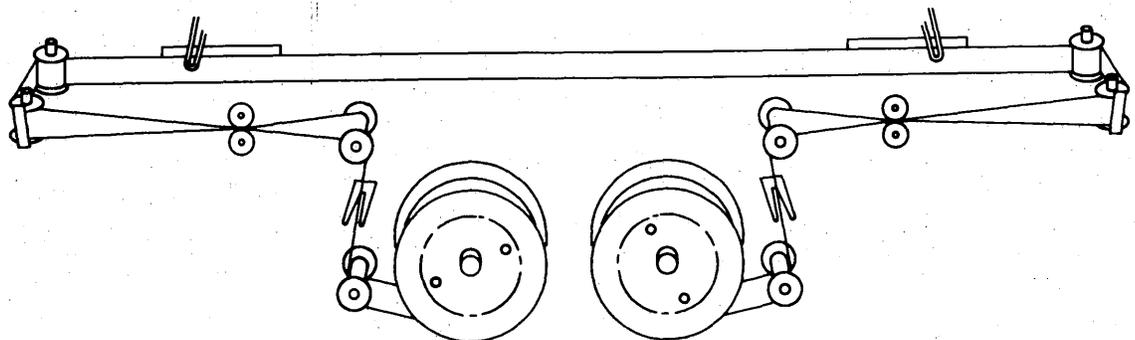

Fig. 22—DATASPEED 40 Printer Ribbon Assembly
- 4 Hold take-up spool in one hand and thread ribbon (Fig. 22). Rotate five times.